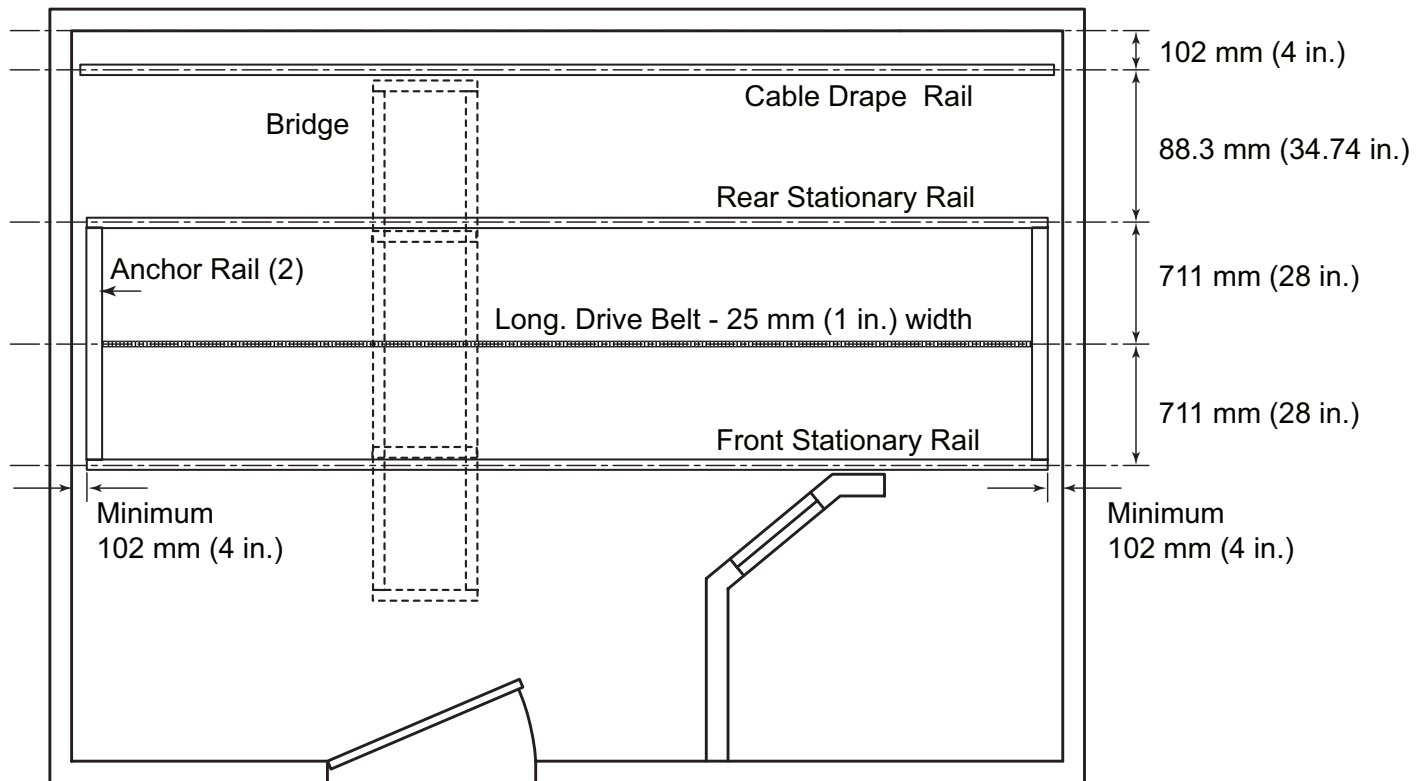

Figure 2-4 Stationary Rail Mounting Locations and Clearances
- To allow installation of the stationary rail cross-members, clearance is required between the ends of the stationary rails and the walls. Refer to Figure 2-4.
- In addition, there should not be anything mounted in the ceiling (i.e. lights, A/C returns, etc) between the stationary rails. This is because the OTS longitudinal drive belt assembly is located on the movable bridge, approximately centered between the two stationary rails, and may come into contact with those ceiling-mounted items during normal use. Refer to Figure 2-4.